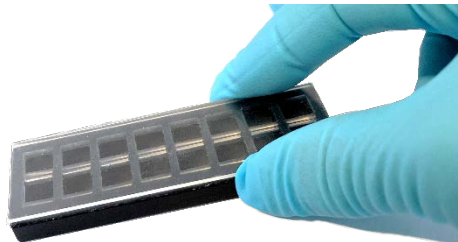

Figure 3
3. Press gently on the back side of the slide to adhere the slide to the gasket as shown in Figure 3.